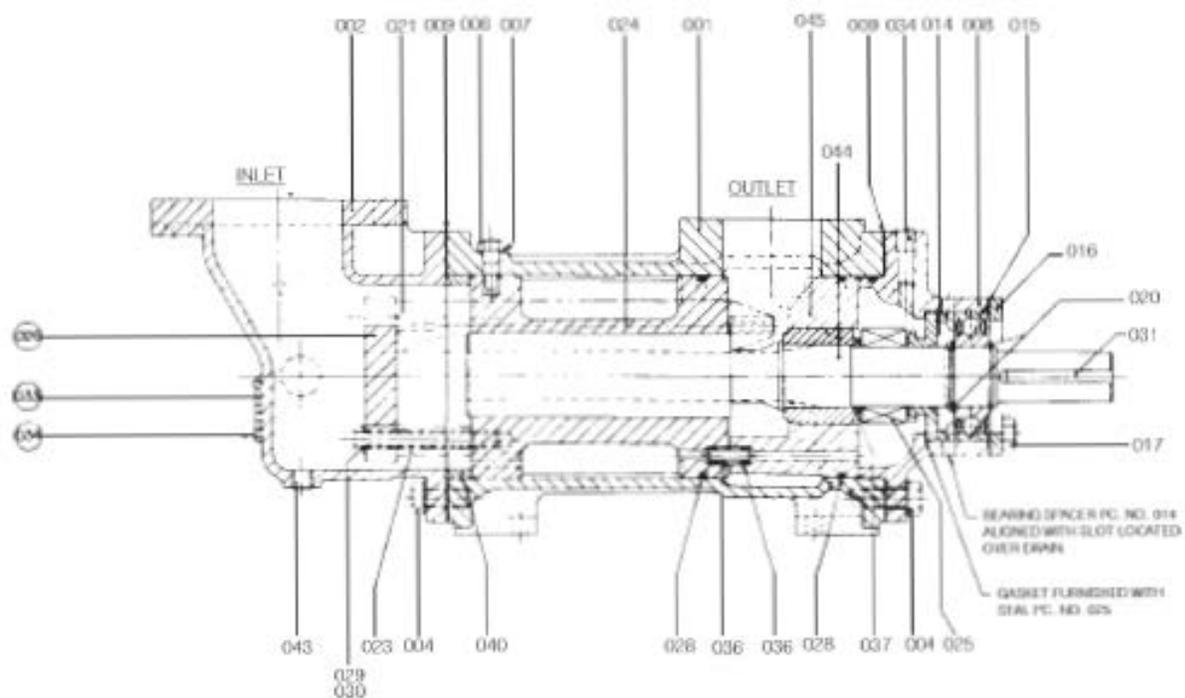

Figure 9. A3D-337
15. **(Figure 9)** Install spacer (040 or 050) in housing (001). Install spacers (023 or 051) and thrust plate (026 or 029) on rotor housing (024) using bolts (029 or 053) and lockwashers (030 or 052). Tighten bolts (029 or 053).
16. Install gasket (009) and inlet head (002) on case (001) using bolts or capscrews (004). Tighten bolts or capscrews (004) to proper torque value listed in Table 2.
18. Install key (031) and coupling hub on power rotor (044 or 063) shaft.